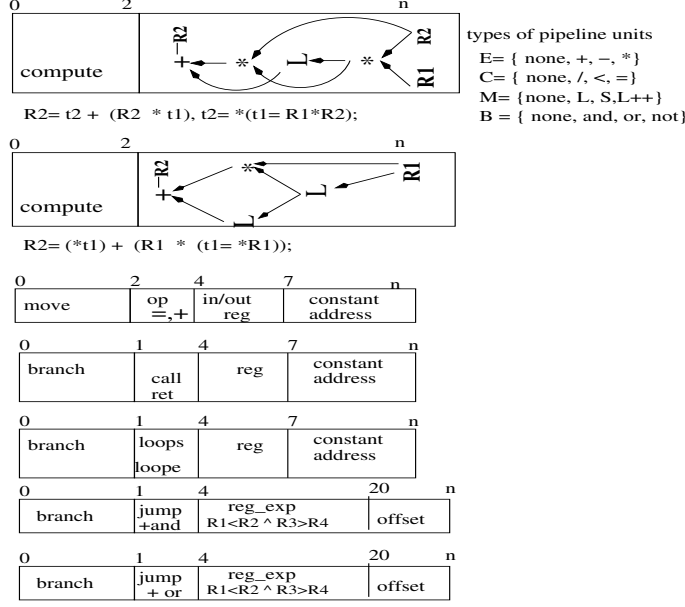

Figure 1: Instruction's format.
- The computational instructions are described by a directed graph of operations and arguments (as described in figure 1). The problem of selecting suitable coding of such directed graphs is left open.
There are four types of instructions as depicted in figure 1:
The compute instruction contains the coding of the circuit representation of the operations and their arguments (as depicted in figure 1). Note that each argument of a pipe unit can be either a register or an internal stage. The number of bits in an instruction  $n$  depends on the amount of bits needed for this coding. We assume that the maximal number of pipeline units  $k$  per pipe is a known constant.